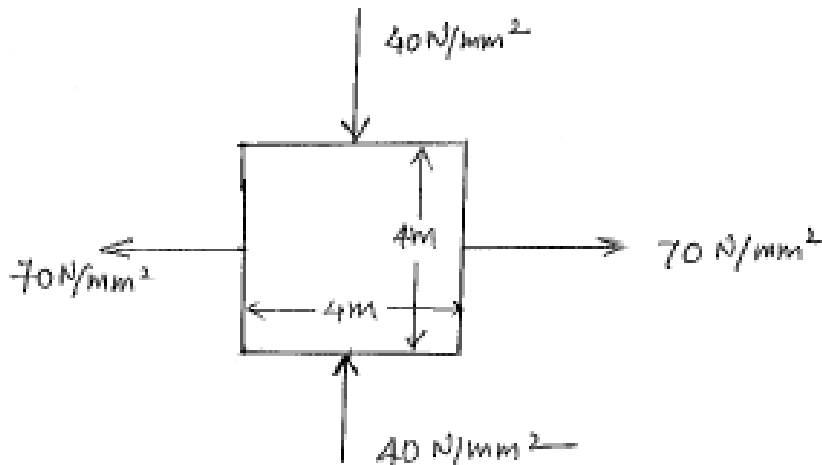

Figure No. 3
- a) In a biaxial stress system as shown in figure No. 3, the stresses along the two perpendicular directions. Calculate the strains along these two directions. Take $E = 2.1 \times 10^5 \text{ N/mm}^2$ and $\mu = 0.28$. Also find change in length in both directions if section is square of 4 m.